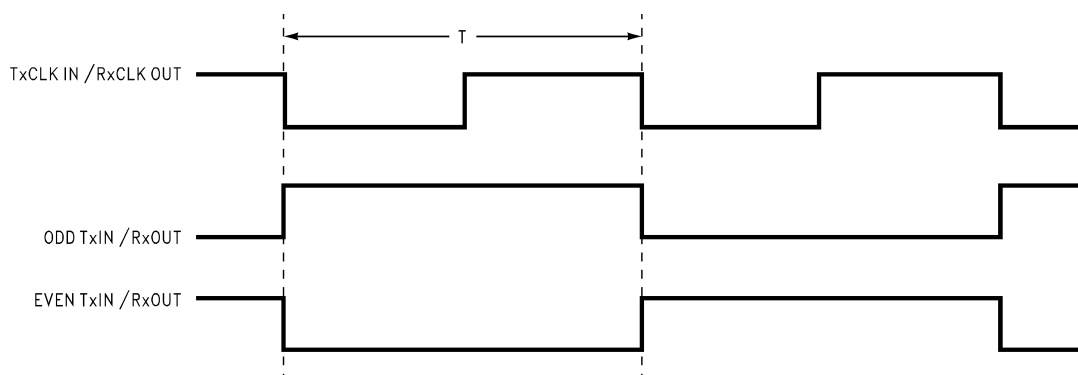

Figure 2. "Worst Case" Test Pattern
- (1) The worst case test pattern produces a maximum toggling of digital circuits, LVDS I/O and CMOS/TTL I/O.
- (2) The 16 grayscale test pattern tests device power consumption for a "typical" LCD display pattern. The test pattern approximates signal switching needed to produce groups of 16 vertical stripes across the display.
- (3) Figure 2 and Figure 3 show a rising edge data strobe (TxCLK IN/RxCLK OUT).
- (4) Recommended pin to signal mapping. Customer may choose to define differently.